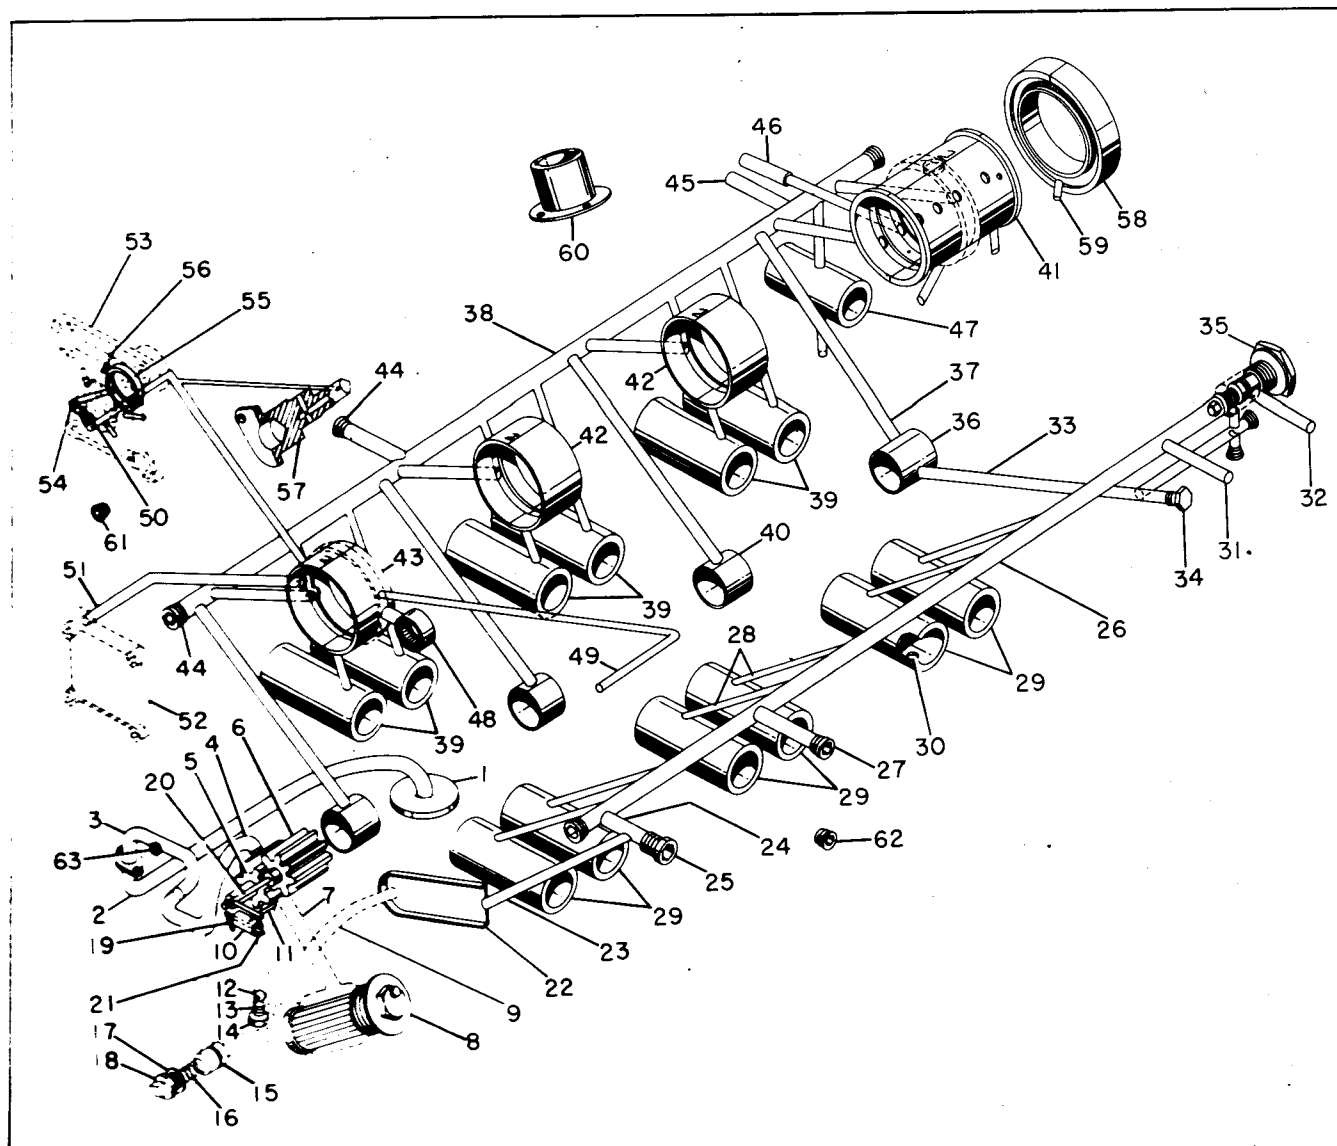

Figure 14. Lubrication System Diagram
3-11. A rubber composition oil seal (58, figure 14), held tightly between the crankcase castings in the front shaft exit, is sealed to the shaft by a helical spring inside the seal's cavity. A felt dust shield is cemented to the front of the oil seal to prevent abrasive materials working under the oil seal lip and scoring the crankshaft.
3-13. CAMSHAFT. A steel alloy forging is machined on four journals, nine cam lobes and the gear mount flange at the rear end. The lobes and journals are hardened and ground. A groove around the front journal passes engine oil from the right crankcase cross passage to the left case passage. (See 33, 36 and 37, figure 14.) The camshaft gear is attached by four unequally spaced bolts to locate its timing mark in relation to the lobes. On O-470-M engine, a cluster gear is bolted with the camshaft gear and drives the fuel pump gear.
**3-22. LUBRICATION SYSTEM.** (See figure 14.) The intake end (1) of the oil pump suction tube (2) is supported below the crankcase and below the level of oil in the sump when this level is at or above the "L" mark on the gauge. (Refer to paragraph 2-1.) The bottom side of the intake is covered by a perforated plate to exclude large solid particles. Atmospheric pressure on the surface of oil in the sump forces the
Legend for Figure 14.
is forced through the hollow pushrods to be drilled rockers and to grooves around their side-drilled bearings. Each intake valve rocker also passes part of its oil supply to a squirt nozzle aimed toward the exhaust valve stem. Spray from these nozzles and from bearing ends lubricates the valve stems and springs. Oil is returned to the crankcase through the tubular pushrod housings which are sealed to the cylinder heads by Silastic rubber rings and to the crankcase by Silastic rubber flanged washers. Heavy springs hold the crankcase seal inward in the case recesses and the housing and cylinder seals outward in the cylinder head recesses. Drain holes (30, figure 14) in the tappet guides permit the returning oil to fall into the sump.